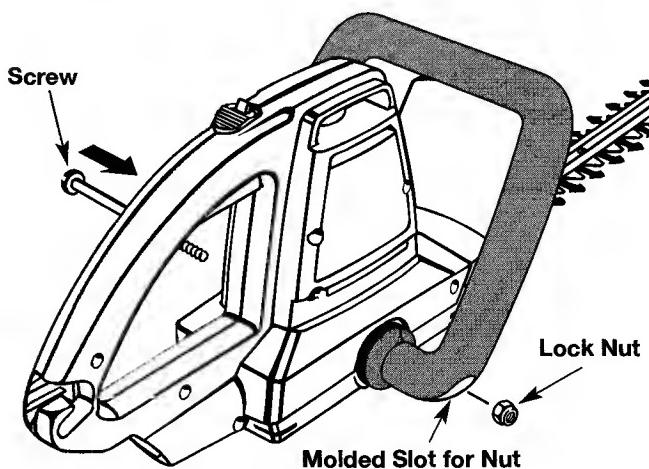

Fig. 2
- Place your trimmer on a workbench and place lock nut into molded slot in front handle (Fig. 2).
- Insert screw through the front handle and motor housing (Fig. 2).